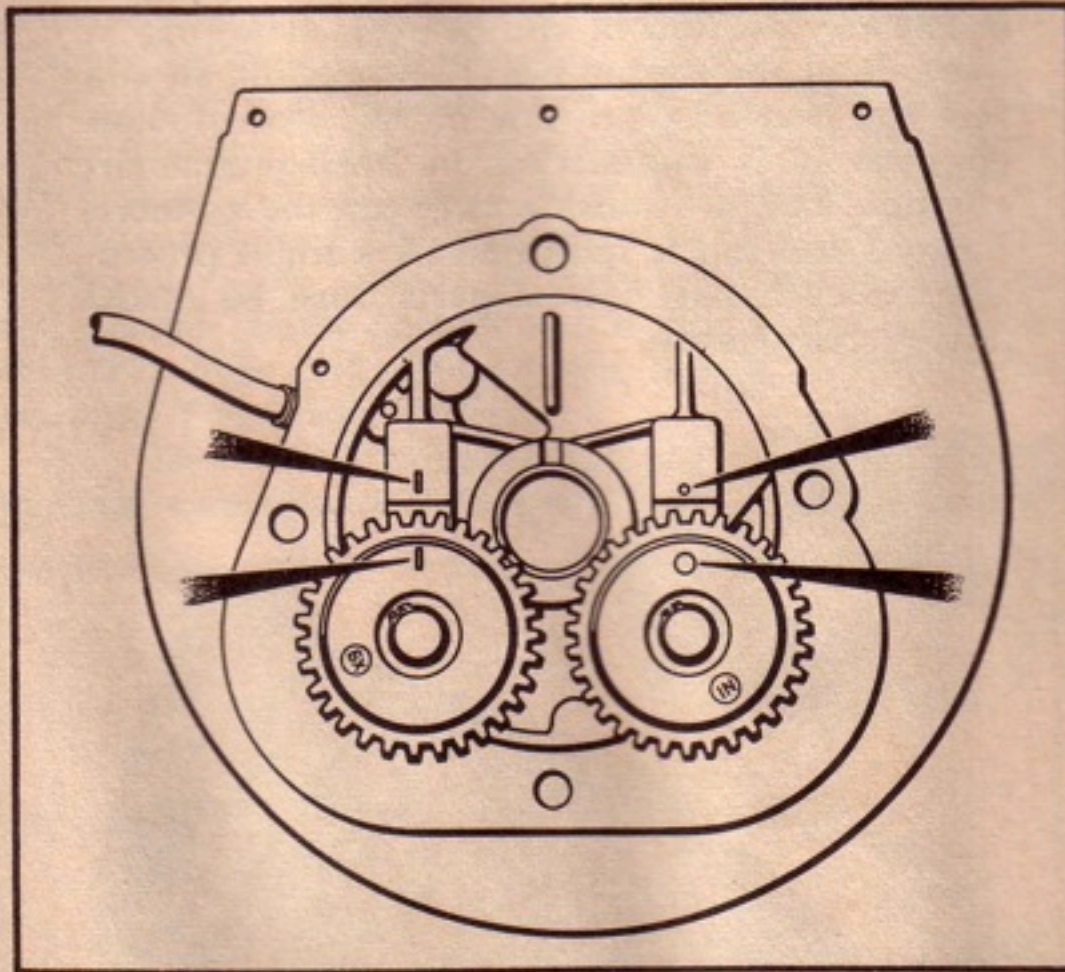

Figure C-26. Valve Timing Marks
c. After meshing, check to make certain all marks are in alignment. (See figure C-26.)